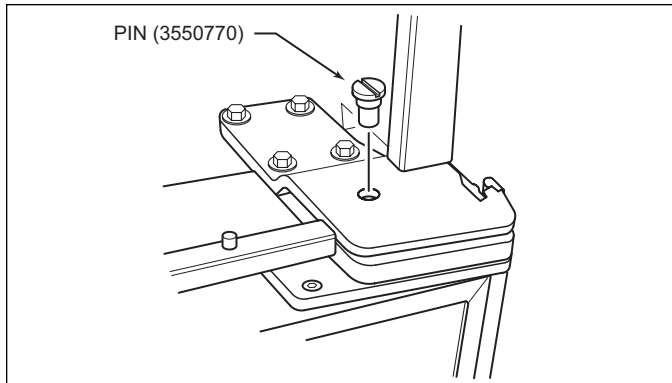

Figure 2-12. 90° Stop Pin (611, 650)
- b. With door closed, insert door stop pin down into threaded hole in top cabinet hinge and tighten (See Figure 2-12). Then, reinstall unit grille.